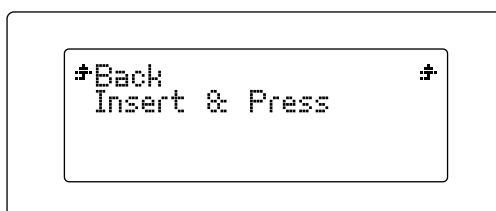

Figure 3.17 Insert & Press message
- ① Go to **Control > Filament > Load**. The extruder will heat up to a temperature of 220 °C. You can monitor the temperature increase on the LCD screen. Once the correct temperature has been reached, the message **Insert & Press** will appear (fig. 3.17).